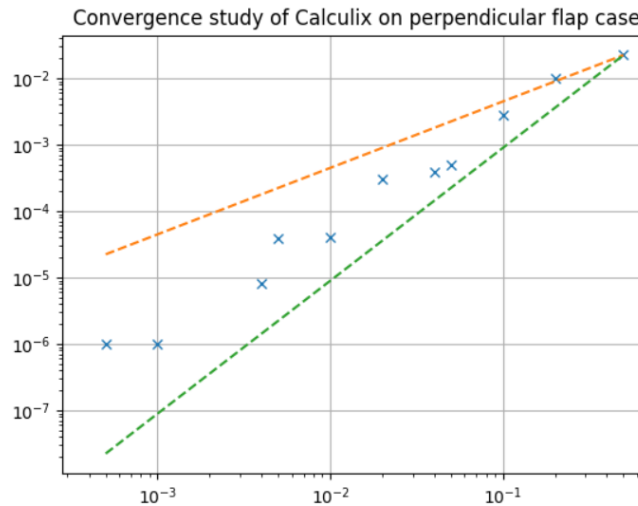

Figure 3 TODO: improve this figure, by adding legend and nicer colors.
- Comment on Figure 3, that shows a higher order (between 1 and 2) of convergence. Mention how we compute the error, and how for values $< 1e-4$ the outputted value is the same, meaning either that for lower timesteps the spatial discretization error governs, or that the solver can't achieve better accuracy bc of how values are stored (max of 6 decimal values, more likely given that the results are the exact same).